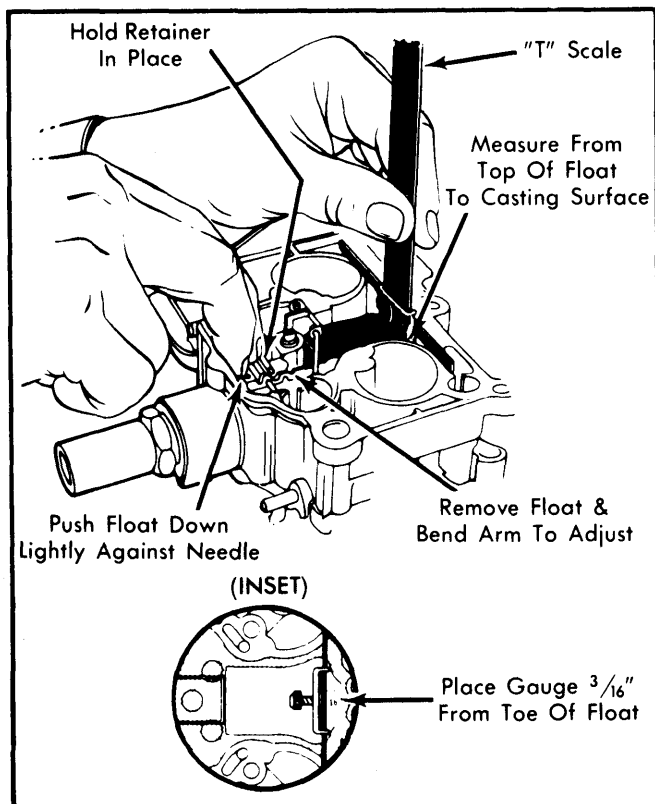

Fig. 2 Adjusting Float Level
1) Remove air horn and gasket from float bowl. Hold float retainer firmly down. See Fig. 2.